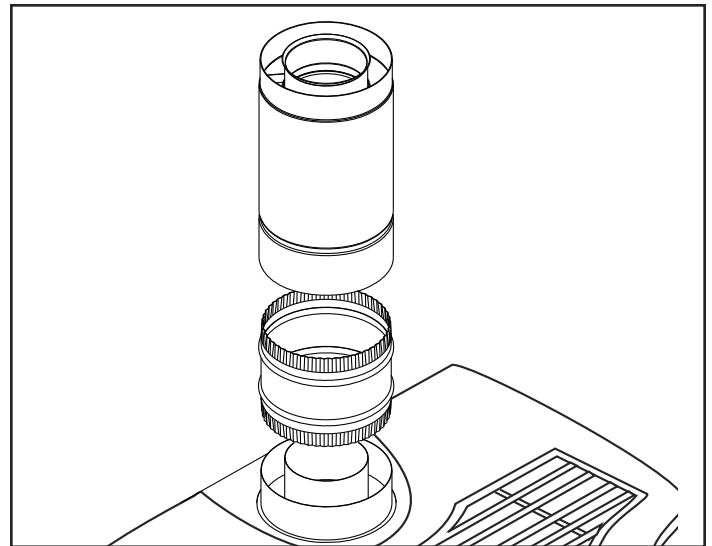

Figure 21 - Attach inner assembly to flue collar.
4. Place a 3/8" bead of millpack caulk around the 4" crimped end of the starter collar on the stove. Attach the SLP pipe to the adapter, and secure by aligning adapter and pipe seams, pressing down firmly until pipe stops, and twisting to lock into place. (Figure 21)